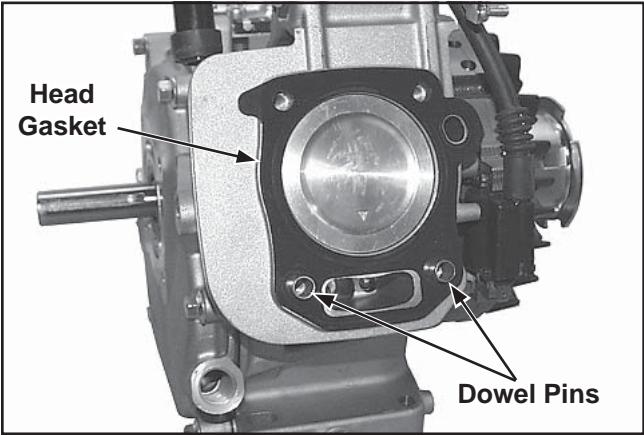

Figure 11-46. Installing Dowel Pins and New Head Gasket.
- 3. Install the dowel pins into the recesses around the lower cylinder head bolt holes. See Figure 11-46.